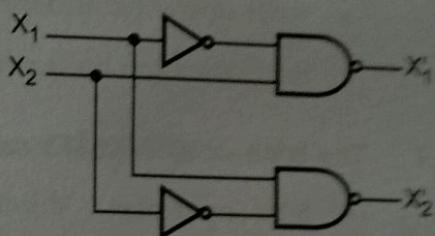

Fig. 3.7.2 Digital locking system
- Fig. 3.7.2 shows a simple digital locking system. Only one output is activated (made low) when properly excited ; otherwise output is disabled (made high).